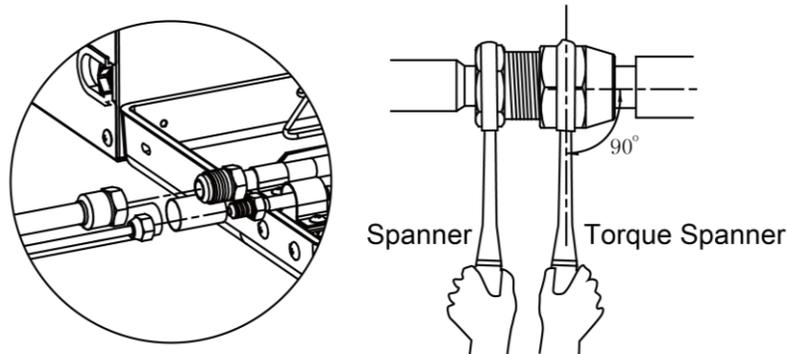

Fig.24
- (1) Conform to the following principles during piping connection: Connection pipeline should be as short as possible. The height difference between indoor and outdoor units should be as short as possible. Keep number of bends as little as possible. The radius of curvature should be as large as possible.
- (2) Weld the connection pipes between indoor and outdoor unit. Please strictly conform to the requirements for welding process. Rosin joints and pin holes are not allowable.
- (3) When laying the pipes, be careful not to deform them. The radius of bending parts should be more than 200mm (7-7/8in.). The pipes cannot be repeatedly bent or stretched, otherwise the material will get harder. Do not bend or stretch the pipe over three times at the same position.
- (4) Please use a torque wrench to connect union nut on the indoor unit. See Fig. 24.